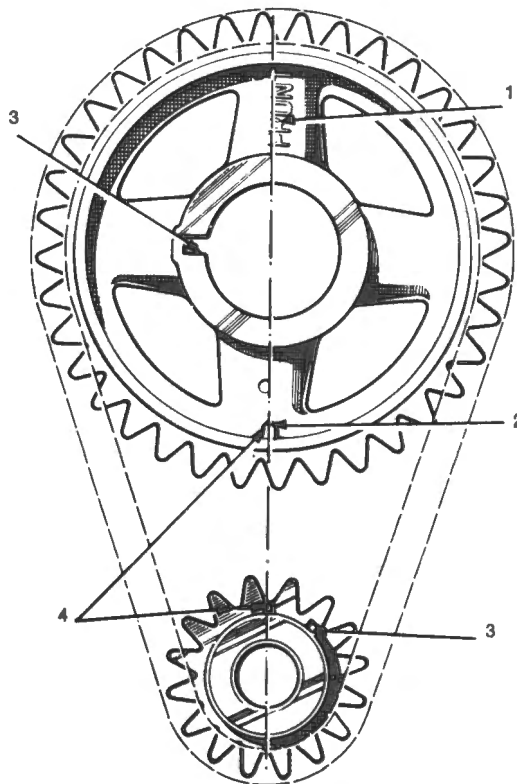

Fig. D-64
- 4 Turn the camshaft until the mark on the gear is at the six o'clock position. Refer Fig. D-64 then remove the gear without moving the shaft.